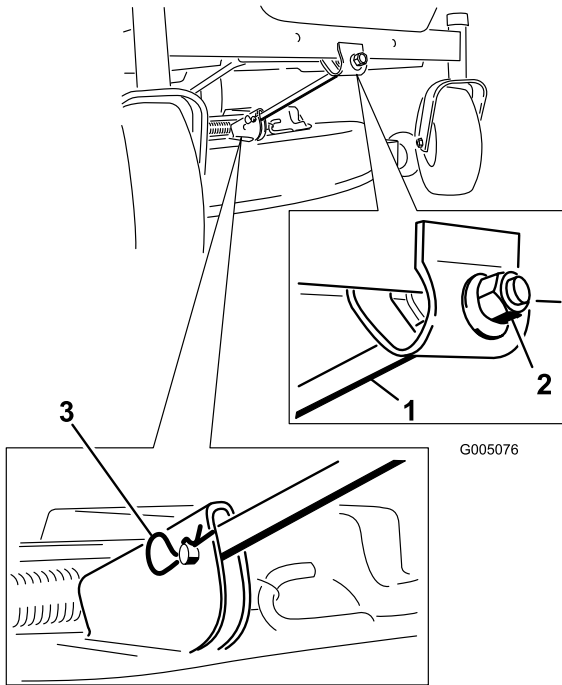

Figure 123
4. Remove the hairpin cotter from the front support rod, and remove the rod from the deck bracket (Figure 123).